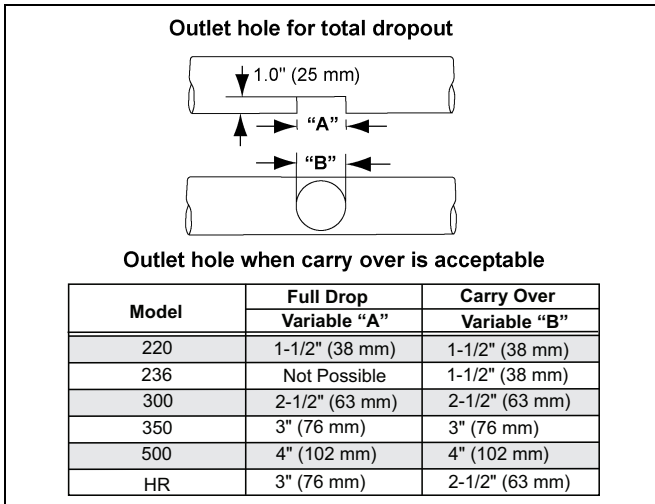

Figure 1A Outlet Hole Cutting Chart
1. Before installing the outlet drop, cut the outlet hole in the auger tube. Use a sabre saw or hack saw when TOTAL FEED DROPOUT is desired. Use a hole saw when SOME FEED CARRY OVER is desired. (Refer to the FLEX-FLO manual for information on programming outlet drops.) See Figure 1A for dimensions of appropriate size outlet hole for the system.